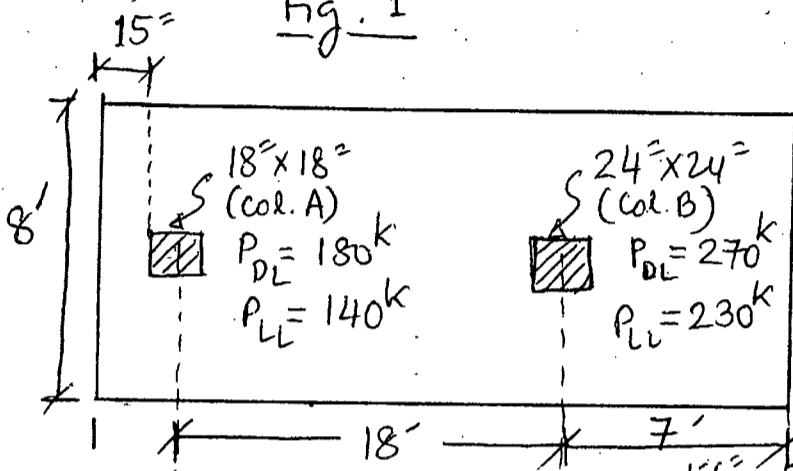

Fig. 3
FIGURE 3 Bearing capacity factors N_y , N_q , and N_c that do not include allowance for punching shear failure. [Note: For punching shear of loose sands or soft clays, the value of ϕ to be used in this figure = $\tan^{-1}(0.67 \tan \phi)$ and the cohesion used in the bearing capacity equation = $0.67 c$.] (Reproduced from NAVFAC DM-7.2, 1982.)
4. (a) A combined footing supports two columns 'A' and 'B' with their respective working loads as shown in Fig. 3. Effective depth of the footing is 40". Check the adequacy of the depth against punching shear. (15)